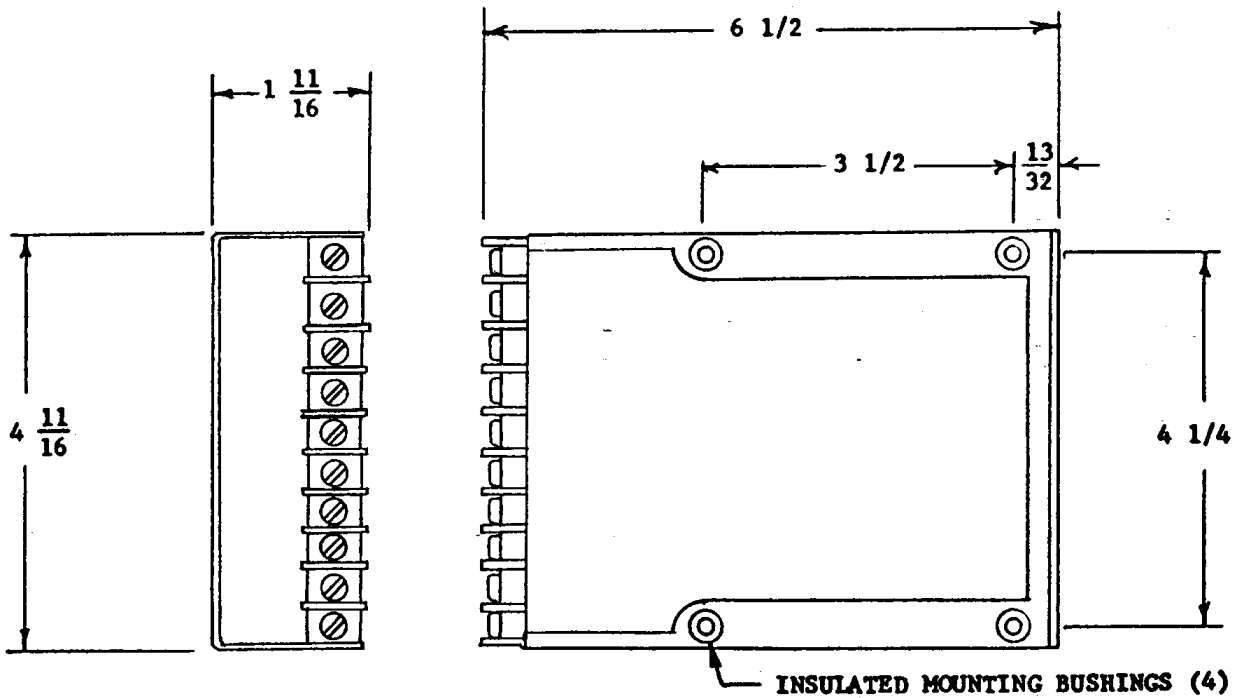

Figure 3-1 - OUTLINE DIMENSIONS - TRANSMITTER CASE
- 3.1 FIG. 3.1 shows the outline dimensions of the 18-115A isolated sensor transmitter. The mounting bushings are spaced according to Devar, Inc. module mounting standards. This permits the use of available hardware for installation with Devar, Inc. modules and multichannel rack cabinets. It can also be wall mounted by either M31 or M32 Bracket Assembly (See Figures 3-1, 3-2 and 3-3).